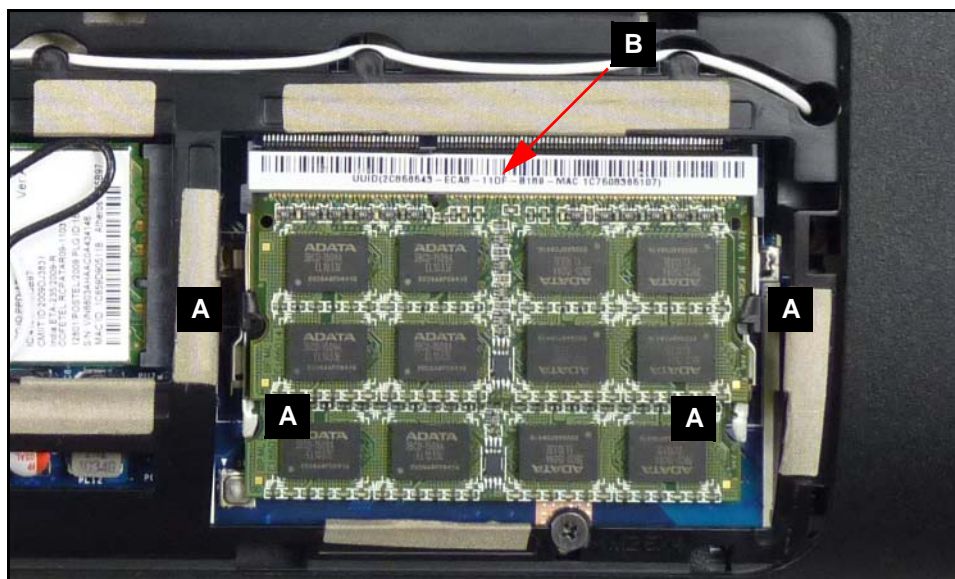

Figure 3-18. DIMM Module(s)
2. Push module clips (A) outwards. (Figure 3-18)
1. Connect module to mainboard connector (B) (Figure 3-18).
2. Push down on module until clips (A) lock in place.